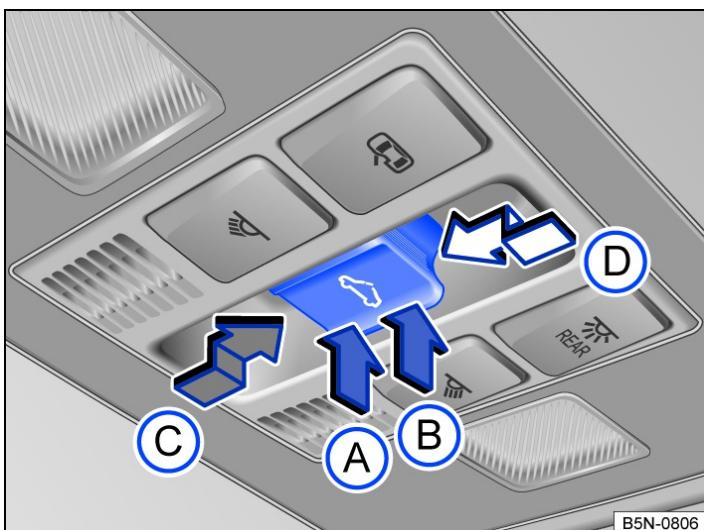

Fig. 1 In the roof: button for the glass roof.
- Manual operation: push button → *Fig. 1* B to the first position.